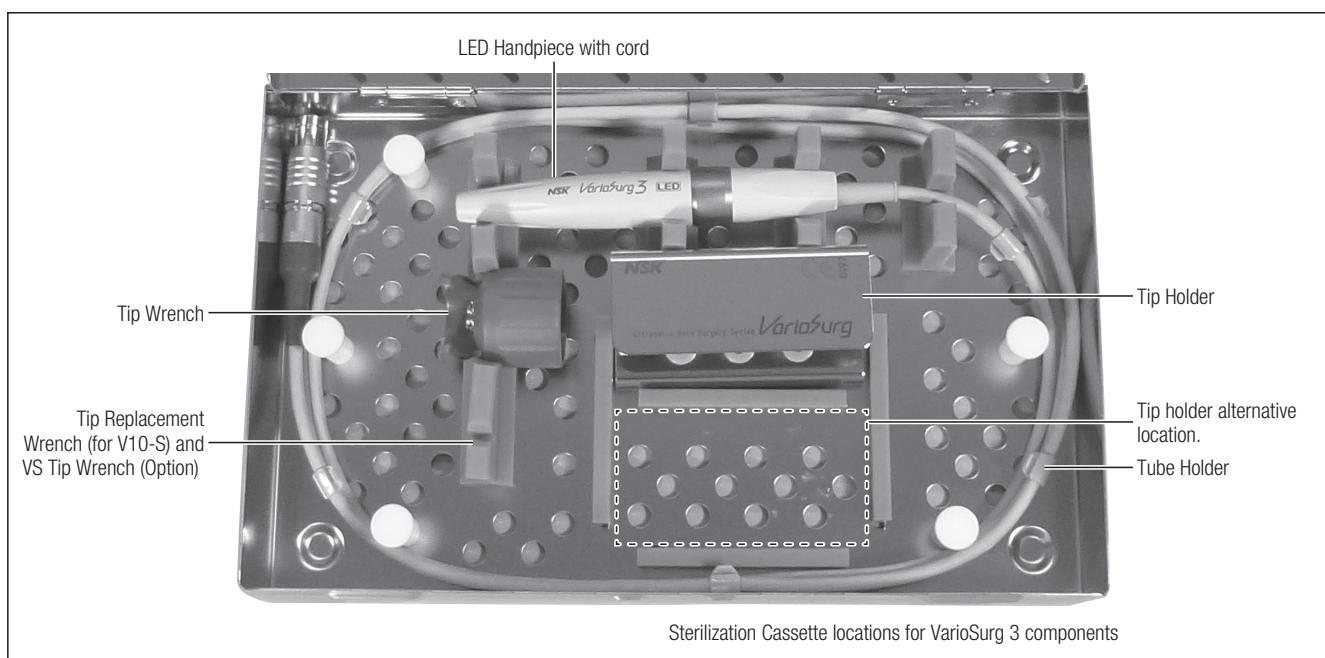

Fig. 23
1) Place the Handpiece and Tip Wrench in the Sterilization cassette. (Fig. 23)